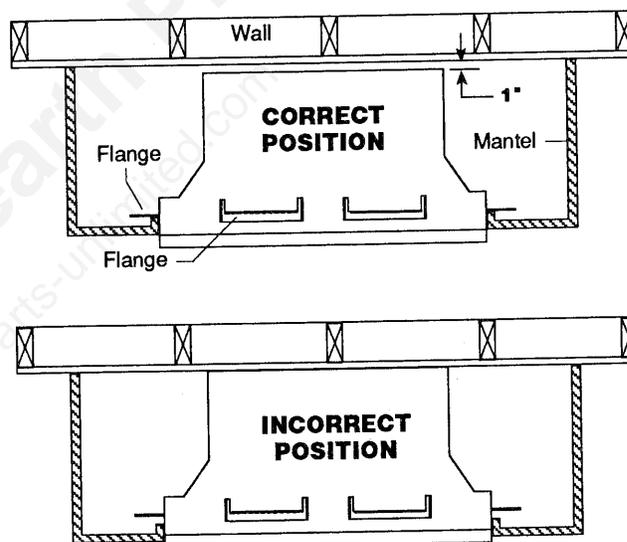

Figure 10. Correct Cabinet / Mantel position.
Step 3. IMPORTANT: Test fit the Mantel and Cabinet together to determine the final position of the Cabinet. Pull the Cabinet all the way forward to butt the top and side flanges against the inside of the Mantel. See Fig. 10. **WARNING: Improper positioning of the Cabinet within the Mantel can result in an unsafe condition.**